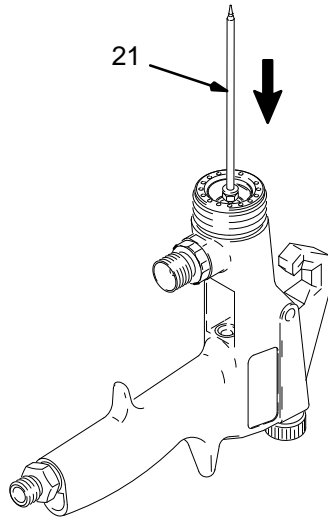

Fig. 3
Do not use excessive force to push out the packing assembly (39) or the u-cup seal (33) as this may bend the fluid needle (21). Refer to Fig. 3 and 4. If packings are difficult to remove, use a 3/16 in. plastic rod to push them out.
9. Push the three piece packing assembly (39) out toward the back of the gun, with the threaded end of the fluid needle, as shown in Fig. 3.